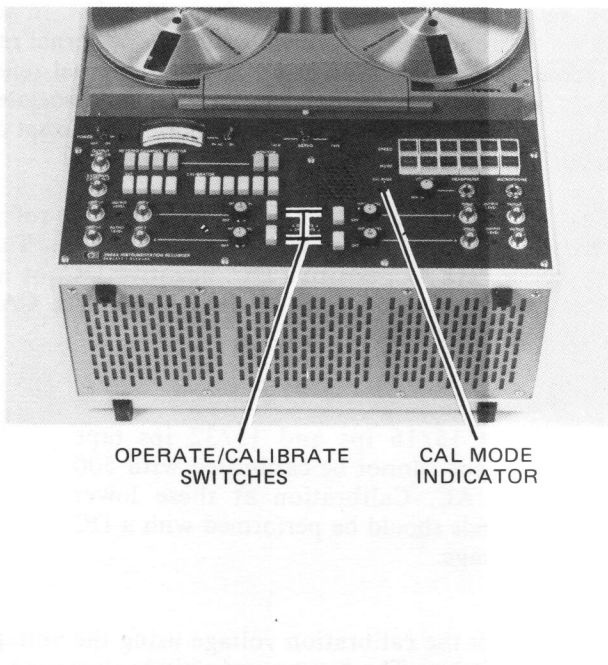

Figure 3-15. Calibrator Controls
a. Select the calibrator reference using the reference selector switches (see Detail A, Figure 3-15). This can be 500 Hz AC, positive DC, negative DC, or an external reference connected to the EXTERNAL CAL INPUT connector.
- c. Select the FM or Direct PCA to be calibrated by setting the associated OPERATE-CALIBRATE switch to CALIBRATE (see Detail B, Figure 3-15).